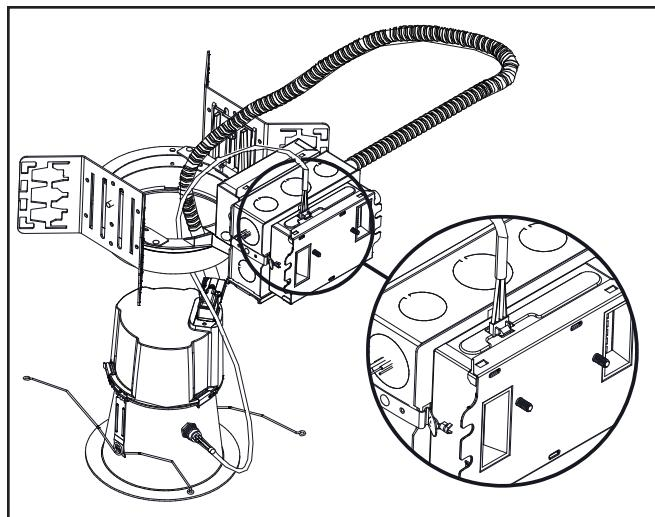

Figure 6.
4. Connect the test switch back to battery pack and connect the module as shown in (Figure 6)